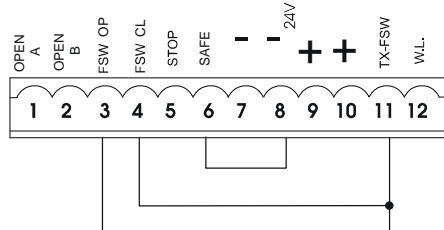

Fig. 26
N.B. If safety devices are not used, jumper connect the terminals as shown in fig. 26.
NB.: If no opening safety devices are connected, jumper connect inputs **FSW OP** and **-TX FSW** (fig. 26).
NB.: If no closing safety devices are connected, jumper connect terminals **FSW CL** and **-TX FSW** (fig. 26).
NB.: If edge safety devices are not connected, jumper connect the **SAFE** and **- inputs** (fig. 26).